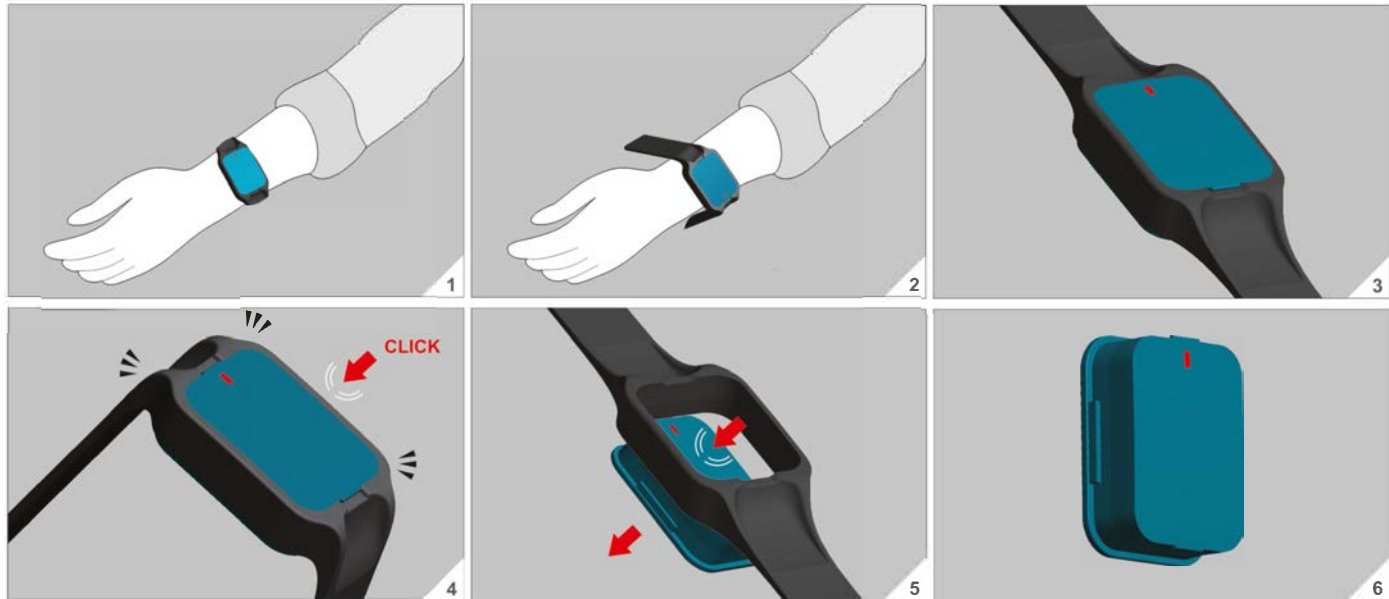

Figure 18. Instructions on removing PDMonitor® Monitoring Devices with wristbands from wrists
- Remove each Monitoring Device from the wristbands, as shown in Figure 18